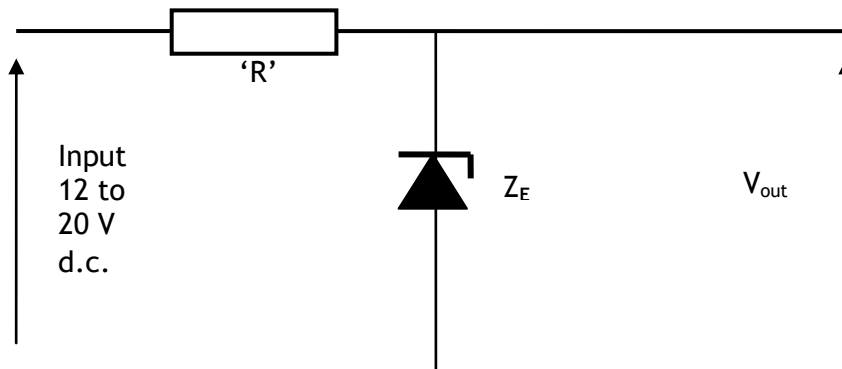

Fig Q3
- Calculate the time after switching on the supply for the relay to close if it requires a current of 0.25 A to operate. (6)
- Calculate the energy stored in the coil at the time of operation. (4)
- Calculate the time delay before operation if a resistor of 6Ω is connected in series with the relay coil and it is operated from 15 V supply. (6)
3. Fig Q3 shows a basic voltage stabiliser circuit intended to give a regulated output of 8 V d.c. from an unregulated input which can vary between 12 V and 20 V .